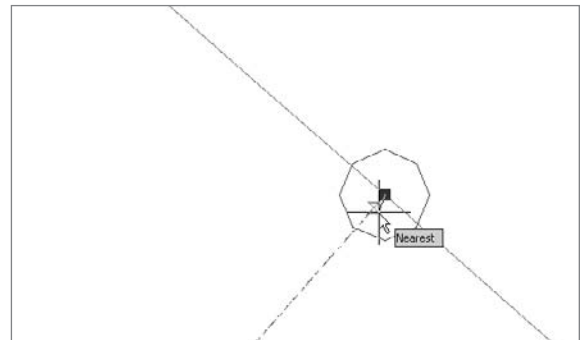

Figure 12.14
3. Select the grip at the intersection, and using a nearest snap, move it just off the intersection point but still inside the marker that's there from the Carson Circle alignment, as shown in Figure 12.14.